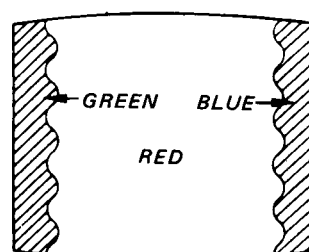

Fig. 3-2.
5. Move the deflection yoke back, and adjust the purity control so that RED is in the center and GREEN and BLUE are at the sides, evenly. (Figure 3-2.)